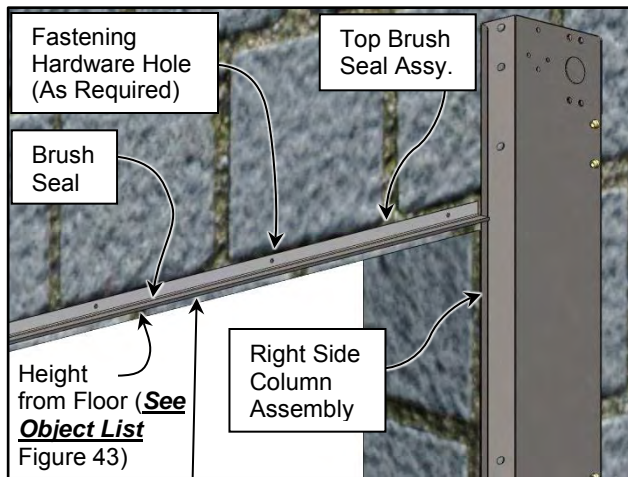

Figure 44
2. Replace the brush in the mounting track. (See Figure 44)
3. Reinstall the top seal assembly to the wall. (See Figure 44)